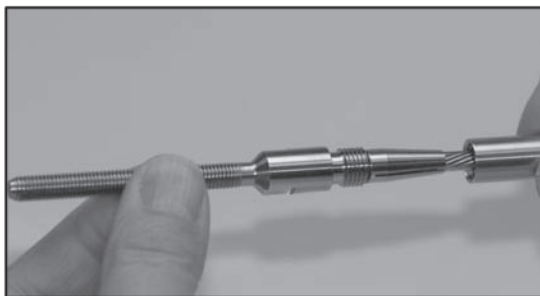

Figure 7
- Step 5 – While holding the “End Fitting” bottomed against the wire, slide the cone to the face to mate with the end fitting face. See figure 7.